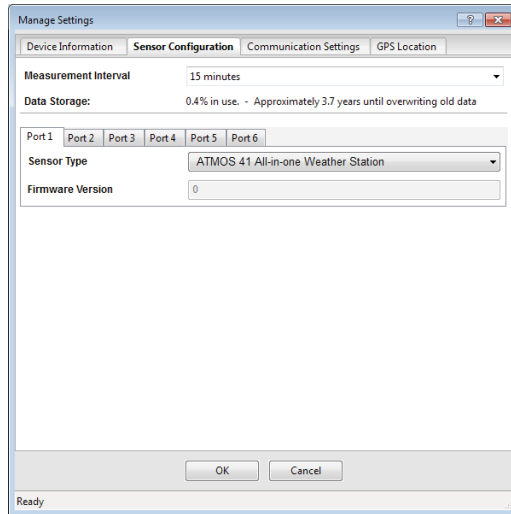

Figure 4 Sensor Configuration tab
7. Navigate to the Sensor Configuration tab (Figure 4).